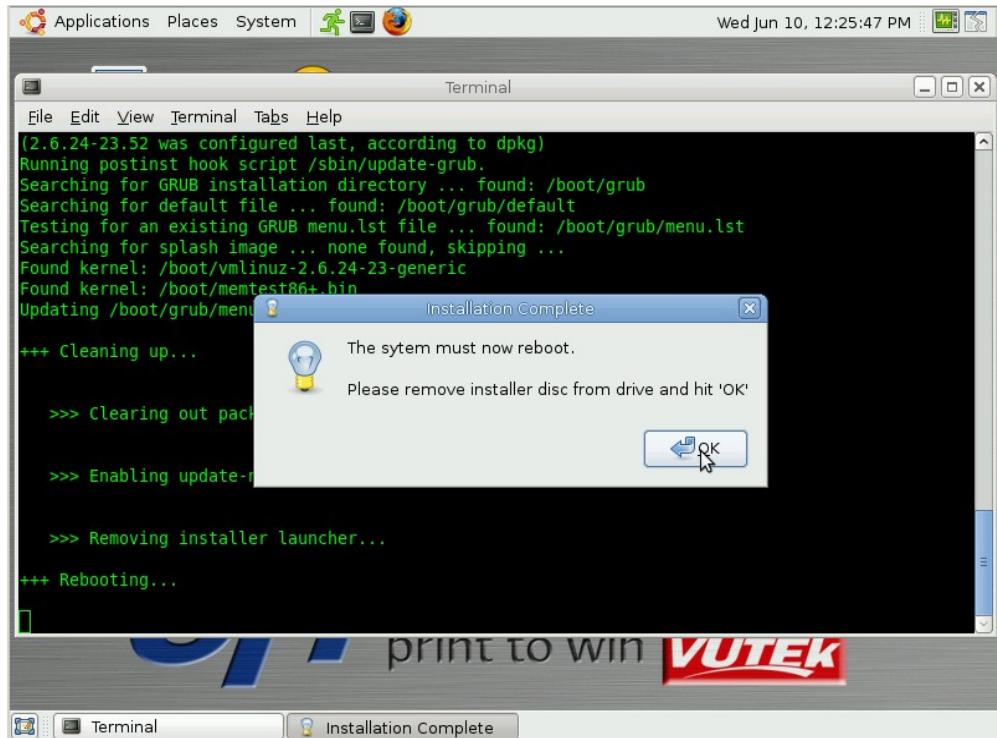

Figure 76: Reboot dialog box
1. When Stage 2 of installation is complete, installer disc will be ejected from DVD drive. Dialog box shown in **Figure 76** will display.